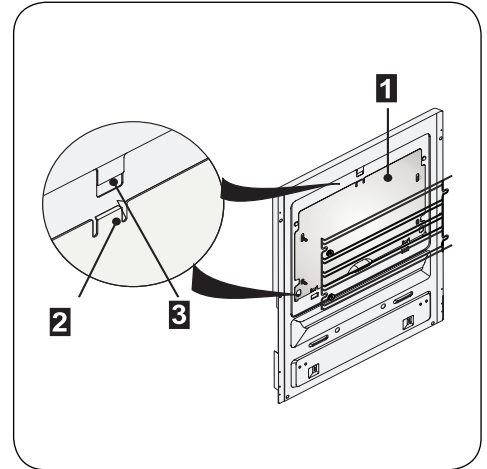

Fig. 10
- Remove both side panels **1** (fig.10).
**! Important!** Position both side panels **1** by taking the locking pin **2** out of the hole **3** (fig. 10).